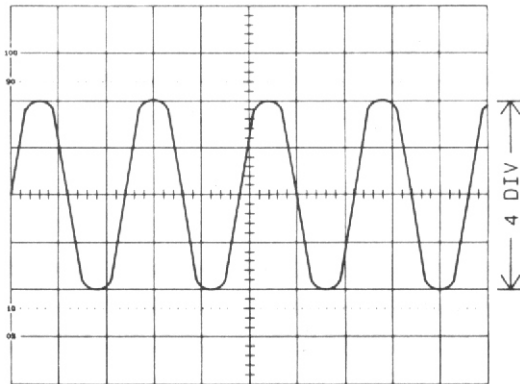

Fig. 2-6. PEAK-TO-PEAK VOLTAGE MEASUREMENT
2. Adjust the TIME/DIV switch (22) in such a manner as to form a waveform of as many as two or three cycles and the VOLTS/DIV switch shall be so adjusted as to make the waveform be on the CRT screen display.
3. Adjust the Vertical POSITION controls (17) and (18) properly and make the end of the waveform align with the horizontal graticule line of the CRT screen display. (See Figure 2-6).
4. Adjust the Horizontal POSITION control (26) and make the end of the waveform be on the central vertical line of the CRT screen display. (This line is graduated in 0.2 scale divisions).
For example, if the value of the VOLTS/DIV switch was set to 2V when the waveform same as that shown in Figure 2-6 had been measured, it would in fact be 8.0 Vp-p.